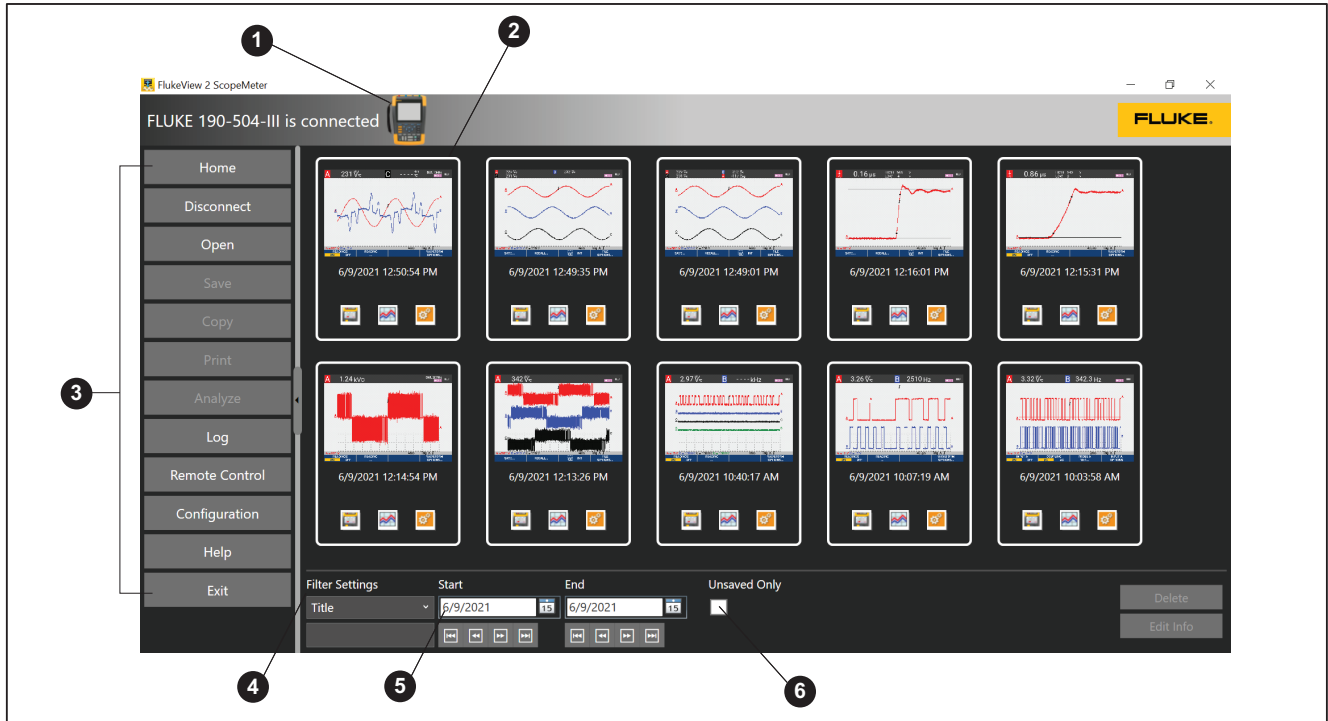

Figure 3. FlukeView 2 Main Window
At startup, FlukeView 2 automatically tries to make a connection with the Test Tool. An icon for the instrument shows at the top of the window if the connection is successful and the Test Tool is connected. See Figure 3, item A.
The main window is an overview of all the Measurement Groups since the start of the program and all items that have been stored to the database. See Figure 3.
The most recent Measurement Group shows on the top left portion of the window. See Figure 3, item ②.
Use the menu buttons on the left toolbar to access the software functions. See Figure 3, item ③.
On the bottom of the screen you can select a filter to limit the amount of Measurement Groups that are visible in the main window. See Figure 3, item ④.
Use **Start** and **End** to select the date range of the items that show in the main window. See Figure 3, item ⑤.
Check the **Unsaved Only** option to show only the items that are not yet saved to the database. See Figure 3, item ⑥.
The drop-down list on the left of the Filter settings allows you to filter on Measurement groups with “Additional Info.” See Figure 3, item ④.